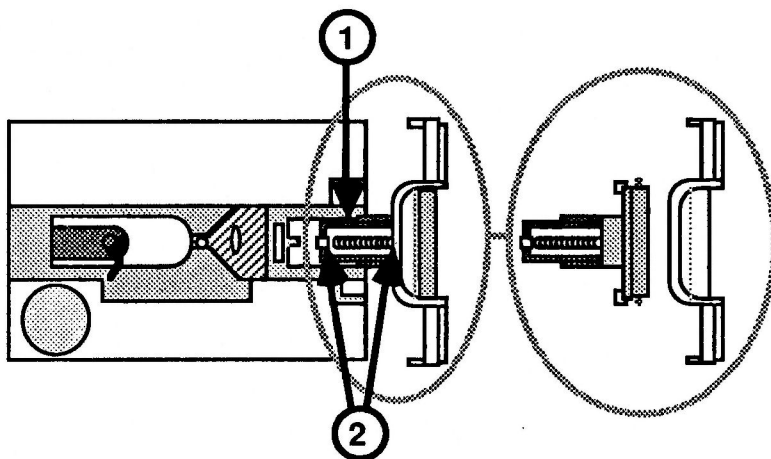

FIGURE 4
1. Replace the door, making sure the side edges fit into the grooves on the metal carriage (Figure 4, #1) and the door springs fit over the supporting tabs (Figure 4, #2).